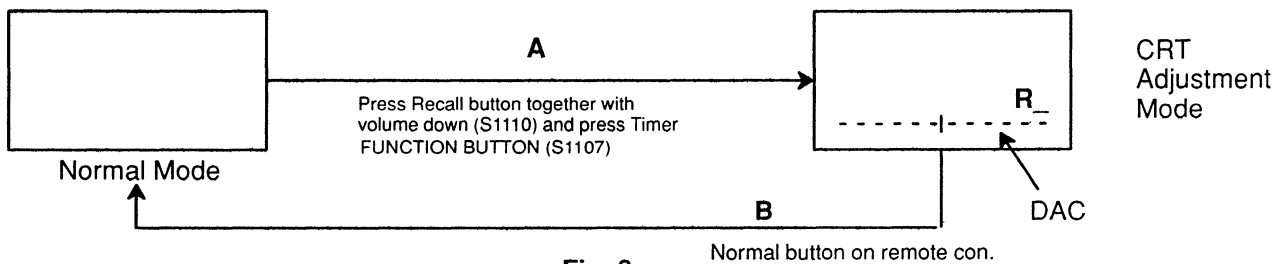

Fig. 9a.
- A: Press the Recall button on the remote control together with volume down (S1110) on the TV. Then press "Timer" on the remote control. The TV in the Normal mode changes to the CRT Adjustment mode. Press the Function button (S1107) to select the required adjustment to be adjusted as shown in Fig. 9a. (Please refer to procedure on page 11). Press the Volume "up" or "down" button (S1111 & S1110) to change the DAC level.